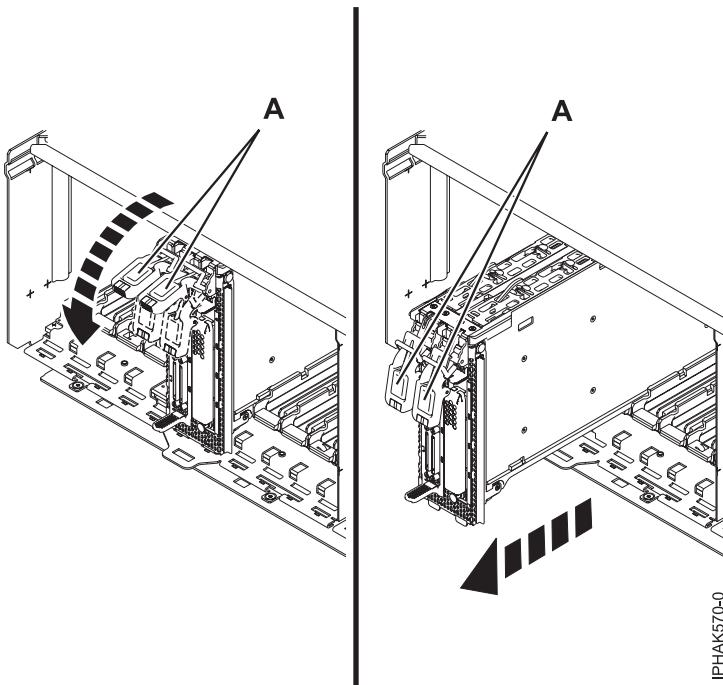

Figure 63. Removing the cassette assembly from the I/O expansion unit
- a. Ensure that the locking arms (A) are down as shown in Figure 63 on page 75.
- c. Carefully slide the cassette assembly all the way out of the I/O expansion unit. See Figure 63 on page 75.